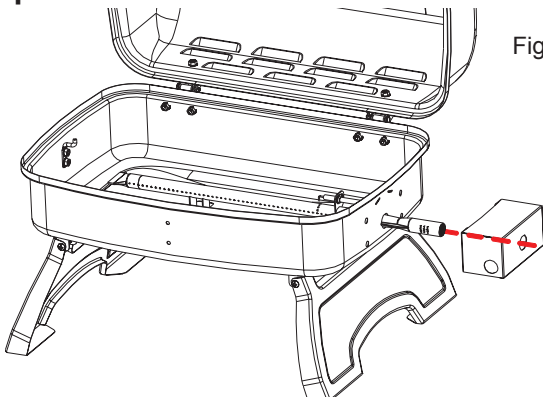

Fig. 3A
*Locate:* Control Panel, (4) M6x15 bolts
*Procedure:* Insert the Burner through the hole on the Control Panel as shown in Fig. 3A.